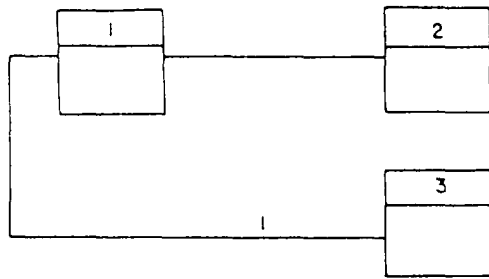
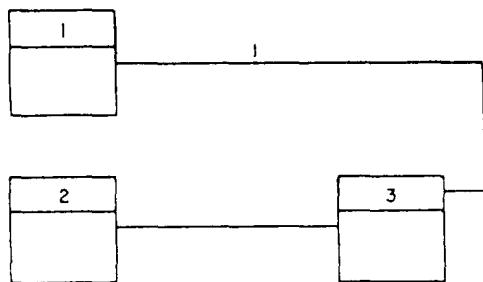
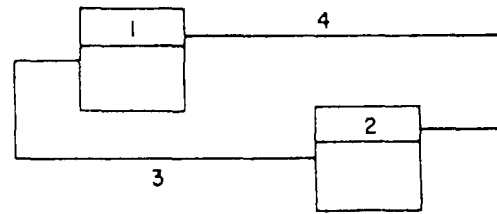

Figure 9-11.—Lead on start of a preceding activity.
Figure 9-12.—Lag on finish a of following activity.
Figure 9-13.—Start and finish lags on same activity.
As seen in figure 9-11, a lead (or partial start) is indicated by drawing the connector from the start of the preceding activity (1). In figure 9-12, a lag (or partial finish) is indicated by drawing the connector from the end of the following activity (3). The values may be given in the basic time units of the project, as with a delay, or as a percentage of overlap. In certain circumstances, they can be stated as quantities if the performance of the activity can be measured on a quantitative basis. The indication of the type and amount of delay, lead, or lag is generally referred to as a "lag factor."
In figure 9-11, Activity 3 may start when Activity 1 is 1-day completed, although Activity 2 must wait for the final completion of Activity 1. In figure 9-12, Activity 3 may start when Activity 2 is completed but will still have 1 day to go when Activity 1 is completed. The last phase of Activity 3 may not begin until Activity 1 has been completed. In figure 9-13, Activity 2 may start when Activity 1 is